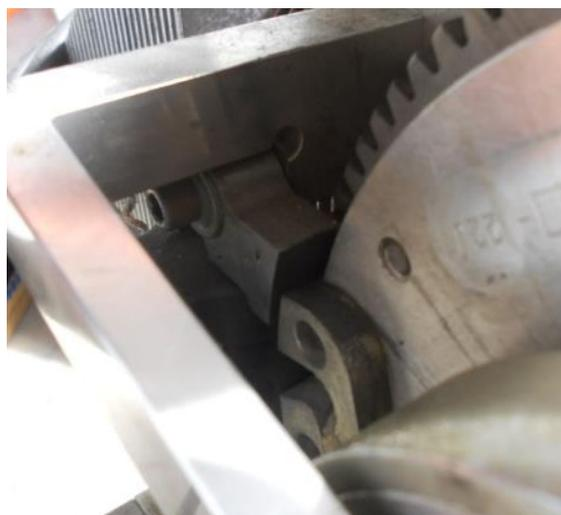

Figure 1 Coil position for crankshaft friction test.
- Remove one spark plug from each cylinder. Turn the engine over several times. Position the crankshaft so that the magnets are almost lined up with the ignition coils, see Figure 1. Then using a spring balance at the tip of the propeller blade, (take care not to damage the propeller blade) pull the prop slowly in the direction of rotation. Take note of the reading on the scale as you do this. You will only get about 150mm of movement before the camshaft causes the prop to move more easily.